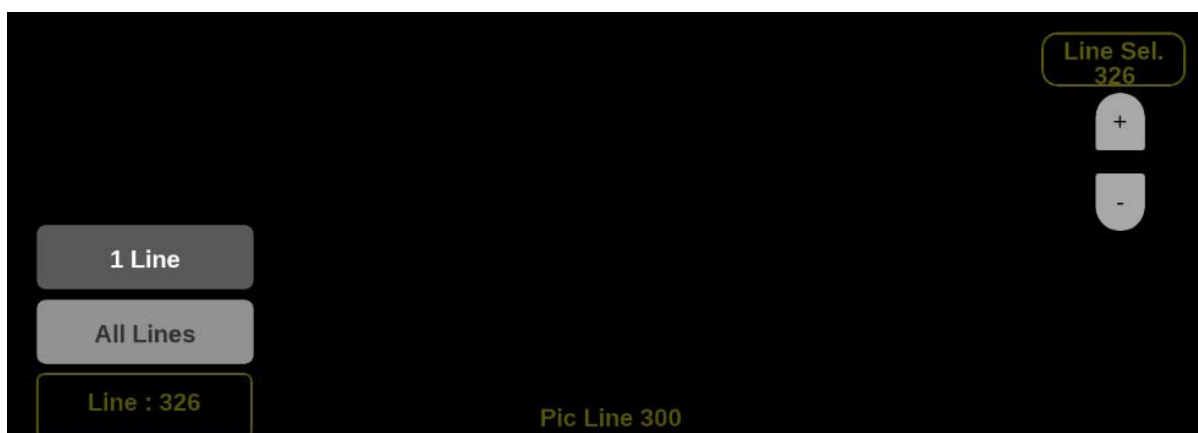

Figure 217: Lightning on-screen tools – Line Select
If **1 Line** is selected then the display will only show results for the selected line in the picture. The line can be selected using the on-screen tools. (See Line Select function.) Or the line can be selected directly on the Picture. (See Figure 217.)
1. Select the **Lines** button at the bottom of the application. (See Figure 217.)